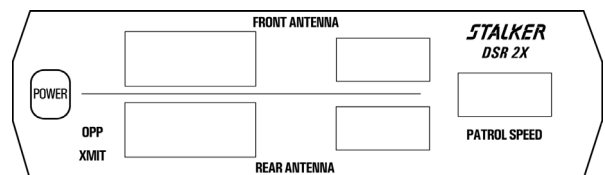

Fig. 22
**REAR OPPOSITE** - To activate the Rear Opposite Target Zone, press the rear antenna **OPP** key. The **STALKER DSR 2X** will beep once immediately to acknowledge that the Target Zone is activated. To confirm activation, the rear **OPP** and **XMIT** display icons will be illuminated. Fig. 22 illustrates this condition.